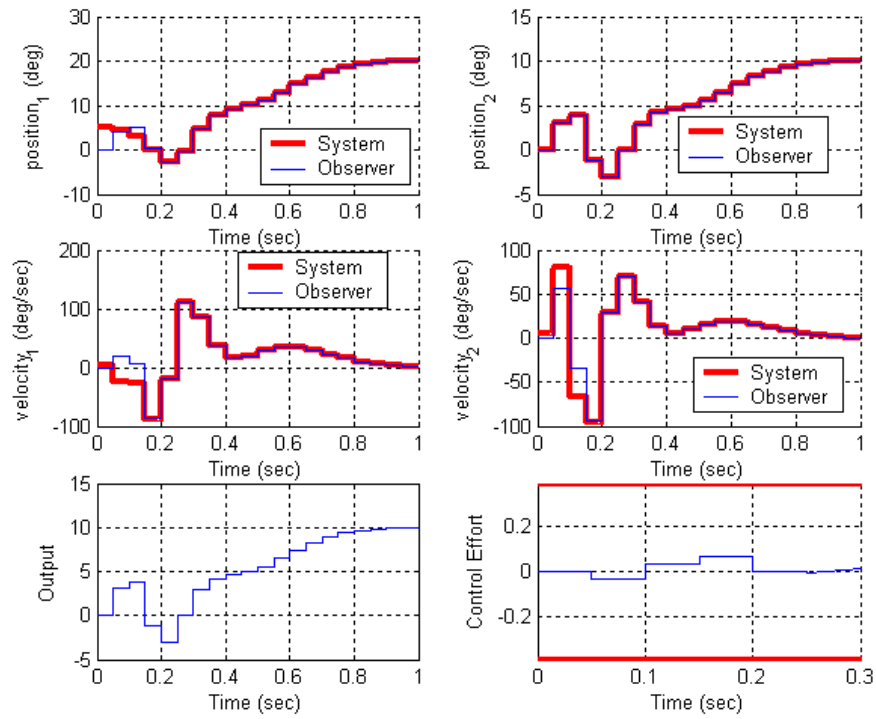

Figure 12. Results for problem 4c.
c) Same conditions as in **b**, but assume the output is the position of the second disk. For a 10 degree step input you should get the graph shown in Figure 12. Turn in your plot.